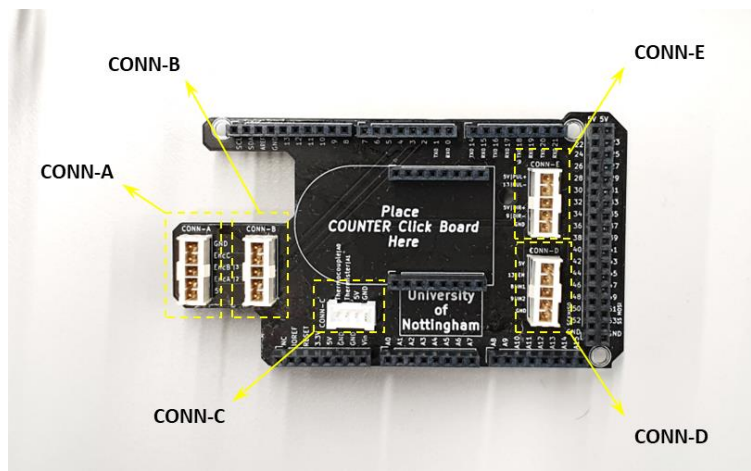

Figure 10 All sockets in the Arduino Shield (CONN-A to CONN-E – relates to Figure 2)
2. Have a good look at the Arduino Shield (see Figure 10). Notice there are 5 sockets on this board (we will go through which connector to use for each socket as we go through the experiment):